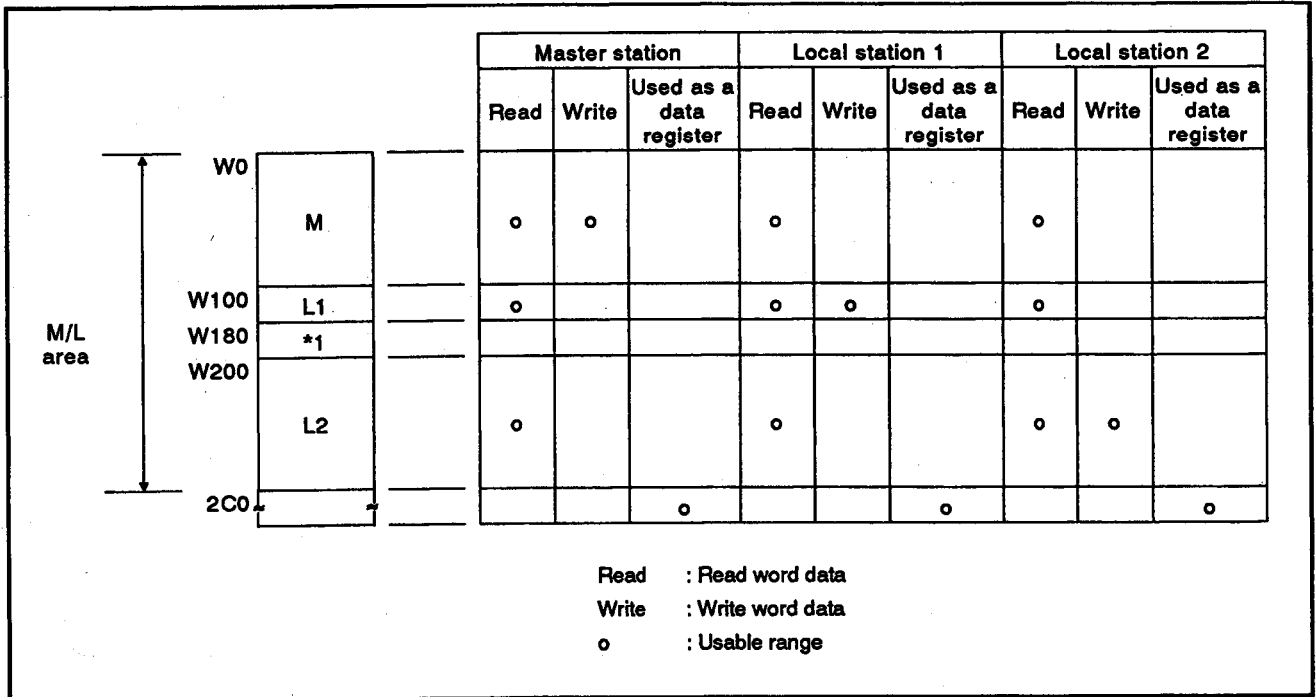

Fig. 7.10 Link Register (W) Allocation Example
(b) In Fig. 7.10, the vacant area marked with \*1 cannot be used as a data register (D) by the master station and local stations.
(3) Allocating inputs (X) and outputs (Y)